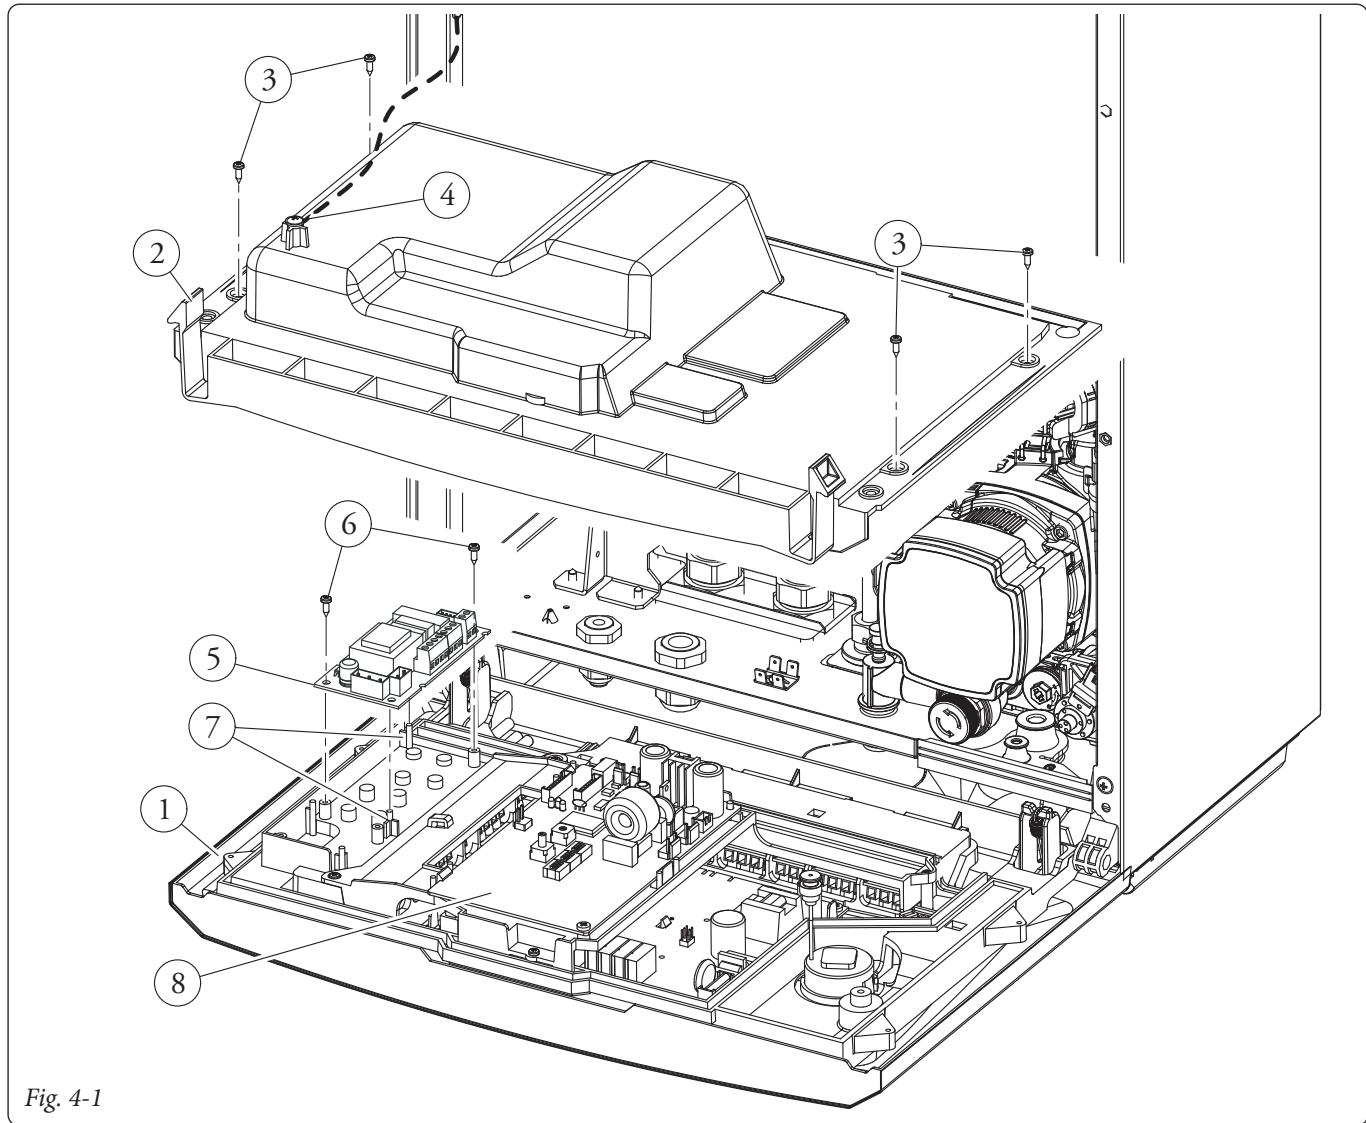

Fig. 4-1
- Open the control panel (1) by unscrewing the screws (3) that hold the cover (2), paying attention to the rope (4) that supports the weight of the control panel (1). Once you have removed the cover, support the control panel (1).
- Assemble the relay board (5), positioning it on the pins (7) and fasten it with the two cross-head screws (6) (see Figure 4-1).
- Perform the electrical connections between the relay board (5) and the electronic adjustment card (8) using the two wires present inside the unit. Connect the external components according to requirements following the wiring diagrams given on the next pages.
- Close the control panel (1), re-mount the casing and re-apply the voltage to the appliance to take it back to normal functioning conditions.